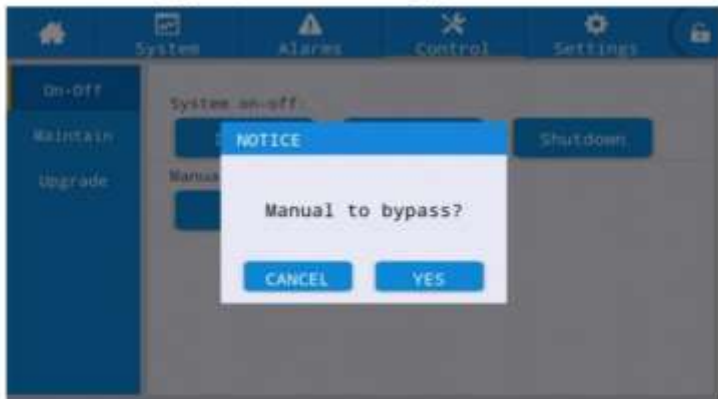
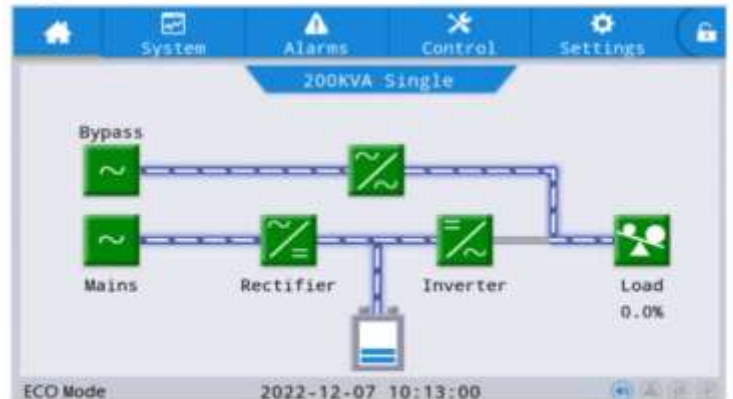

Fig. 4-9 Setting interface of manual bypass
Fig. 4-10 Effective energy flow chart of manual bypass
1. Start the “manually transfer to bypass”. After starting the display screen, if the “Control” on the main menu of the monitoring display unit is grayed, you need to unlock it first. You can click the password lock in the upper right corner of the display interface, an unlock window pops up, and then you can enter the password, as shown in Fig. 4-1. Choose the “Control” on the main menu of the monitoring display unit, click the [Manual to bypass-on], and select the “YES”, as shown in Fig. 4-9. At this time, UPS powers the load by static bypass, and the energy flow chart is shown in Fig. 4-10.